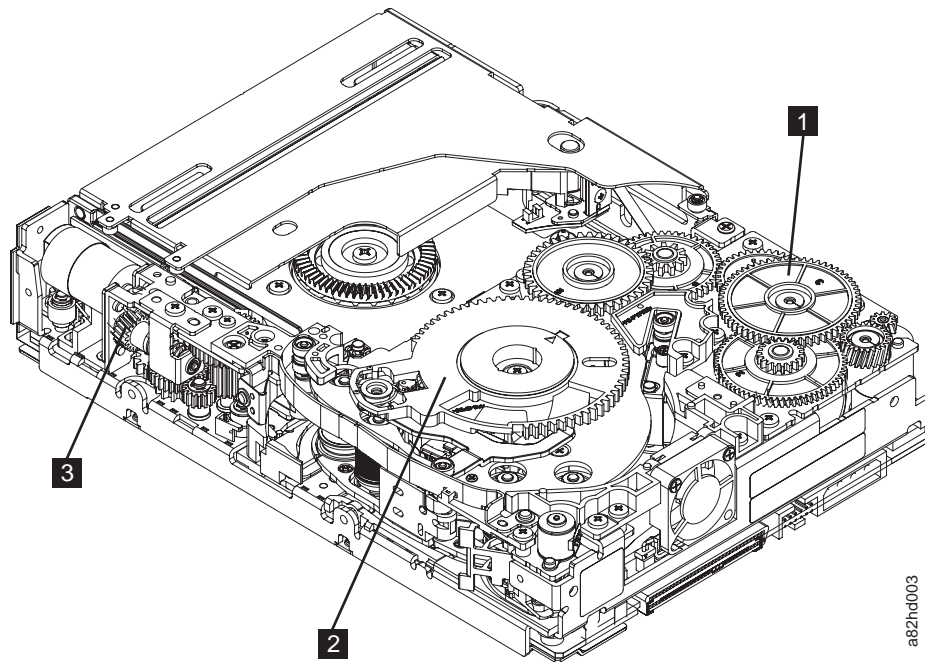
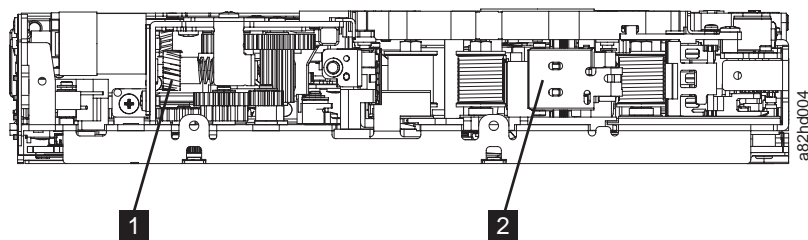

Figure 179. Drive with cover removed to reveal gear train
Figure 180. Leader Block Assembly (LBA)
4. Locate the threader intermediate gear (**1** in Figure 179 on page 185) near the rear of the drive. You can use your finger to rotate the threader intermediate gear (**1** in Figure 179 on page 185) and slowly rotate the threader mechanism gear (**2** in Figure 179 on page 185) clockwise. This procedure draws the tape leader block assembly (LBA) into the cartridge.
5. As the leader pin is secured in the cartridge, the leader pin retention spring clips click into place. If you do not hear the click, continue rolling until the threader intermediate gear (**1** in Figure 179) stops. The LBA is in the correct position.
6. Rotate the loader intermediate gear (**3** in Figure 179 and **1** in Figure 180) clockwise as viewed from the front of the drive until it stops. This procedure releases the LBA leader pin.
7. Rotate the threader motor worm gear (**1** in Figure 180) counterclockwise until the leader block is in front of the read/write head. This procedure moves the LBA out of the cartridge.
8. Rotate the loader motor worm gear (**1** in Figure 180) counterclockwise as viewed from the front of the drive until it stops.